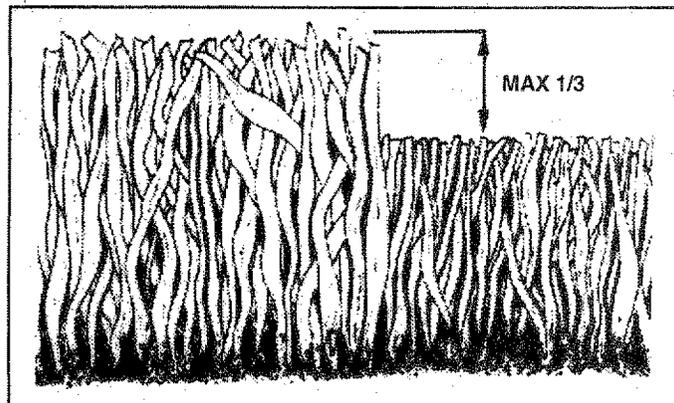

FIG. 6
OIL (See Fig. 6)
- For best results, adjust the lawn mower cutting height so that the lawn mower cuts off only the top one-third of the grass blades (See Fig. 6). If the lawn is overgrown it will be necessary to raise the height of cut to reduce pushing effort and to keep from overloading the engine and leaving clumps of mulched grass. For extremely heavy mulching, reduce your width of cut, mow slowly and raise the rear of the lawn mower one wheel adjuster setting higher than the front.